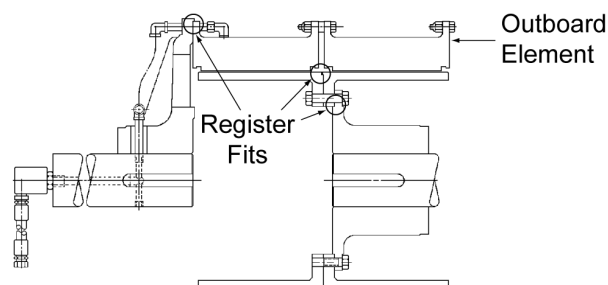

Figure 4
- 2.1.1 Airflex VC grinding mill clutch applications are available in single-narrow, single-wide, dual-narrow and dual-wide mounting configurations. See **Figure 4**. The clutch configuration is determined by the motor horsepower and RPM, the allowable motor overload (per cent rated horsepower) for mill starting, the inertia of the mill and the charge, and the physical space available for the clutch. With the exception of single-narrow arrangements, all clutches can be supplied with axial locking devices.